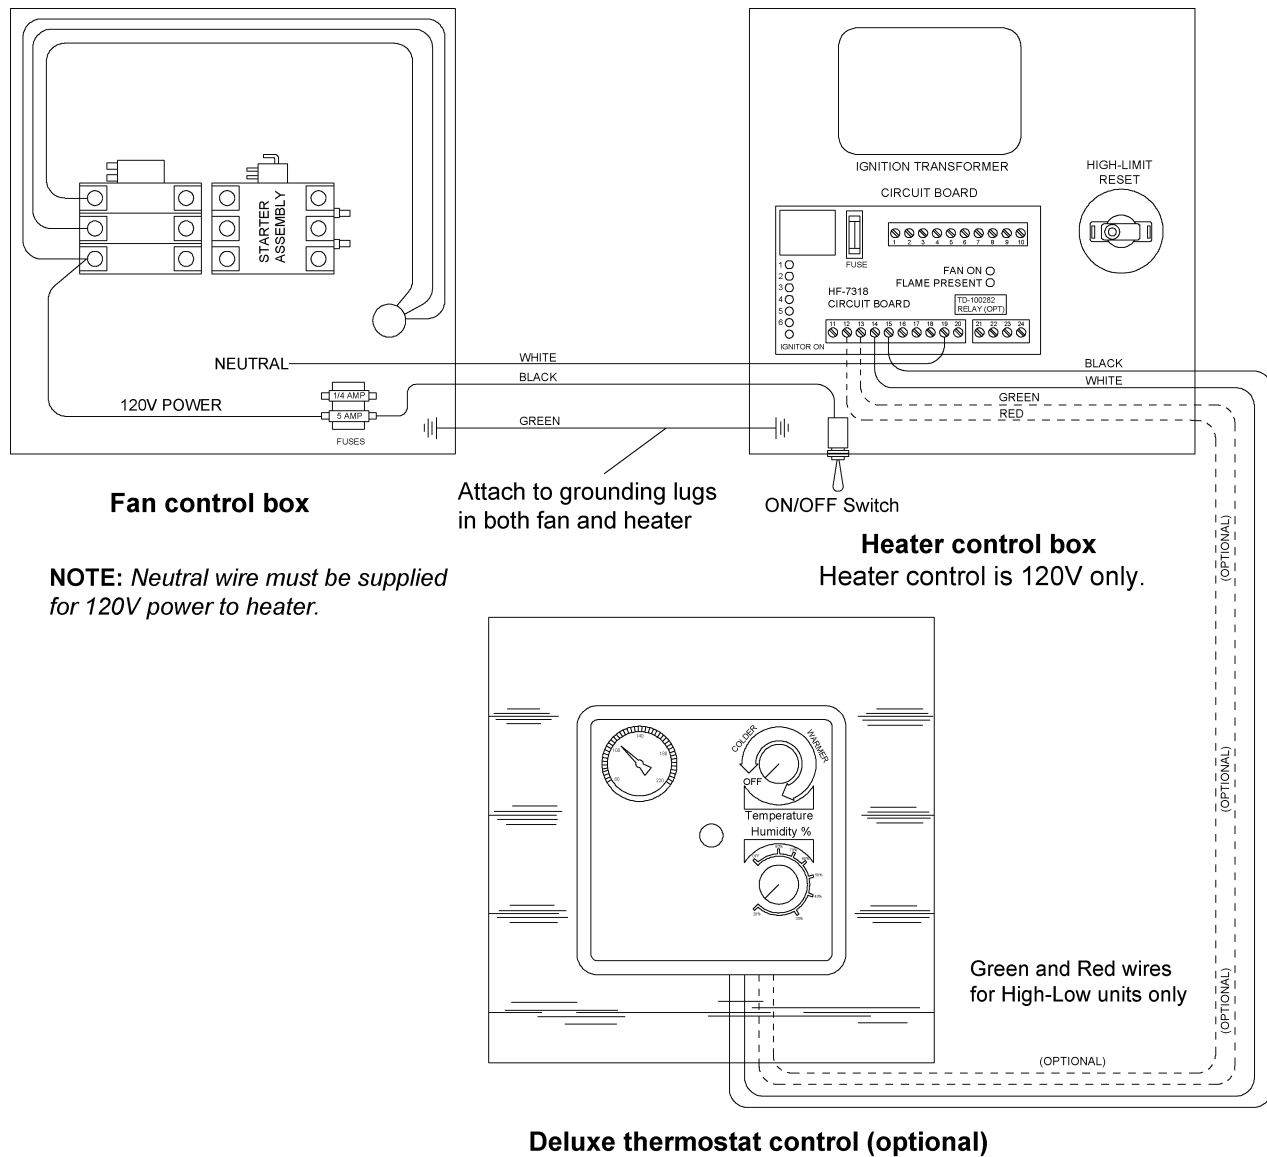

Figure 3B Deluxe Vane Axial Heater Wiring to Fan Unit
2. Make field connection of wires in fan box as shown in Figure 3B on Page 15. 110V power supply or 0.5KVA 460V to 110V transformer must be used to supply power for heater.
3. Connect deluxe thermostat control (optional) as shown in Figure 3B on Page 15.